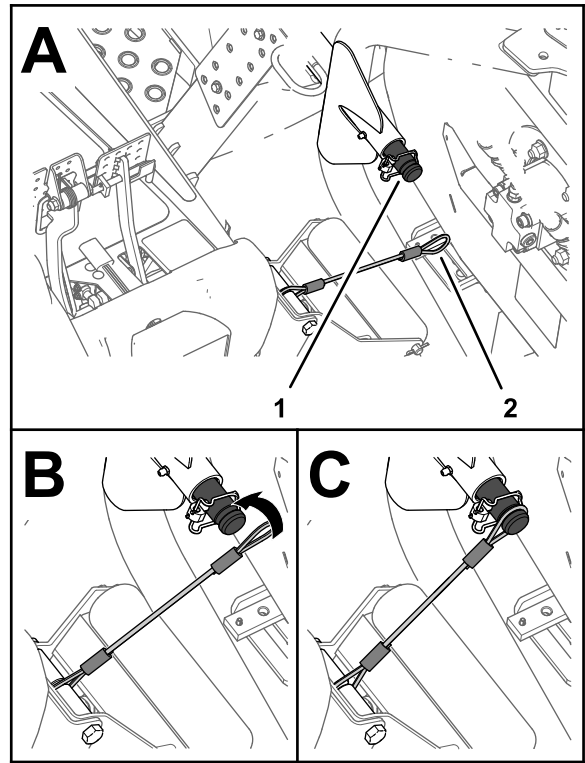

Figure 34
5. Align the lanyard to the carrier shaft of the lift arm for the forward outer-cutting unit (Figure 34).
6. Slip the loop in the lanyard over the carrier shaft until the lanyard is fully seated in the groove in the shaft (Figure 34).